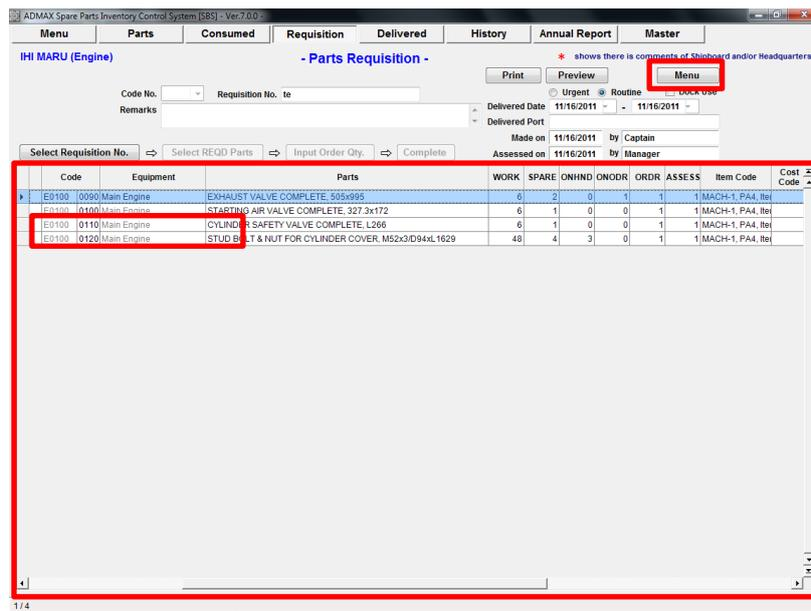

Fig 7.4 Parts Requisition (Assessed)
6. "Parts Requisition (Assessed) Screen"(Fig.7-4) is displayed. In this screen, assessed result by Headquarters is shown.
11. "Parts Requisition (Assessed) Screen"(Fig.7-4) is displayed. In this screen, selected assessed result by Headquarters is shown.